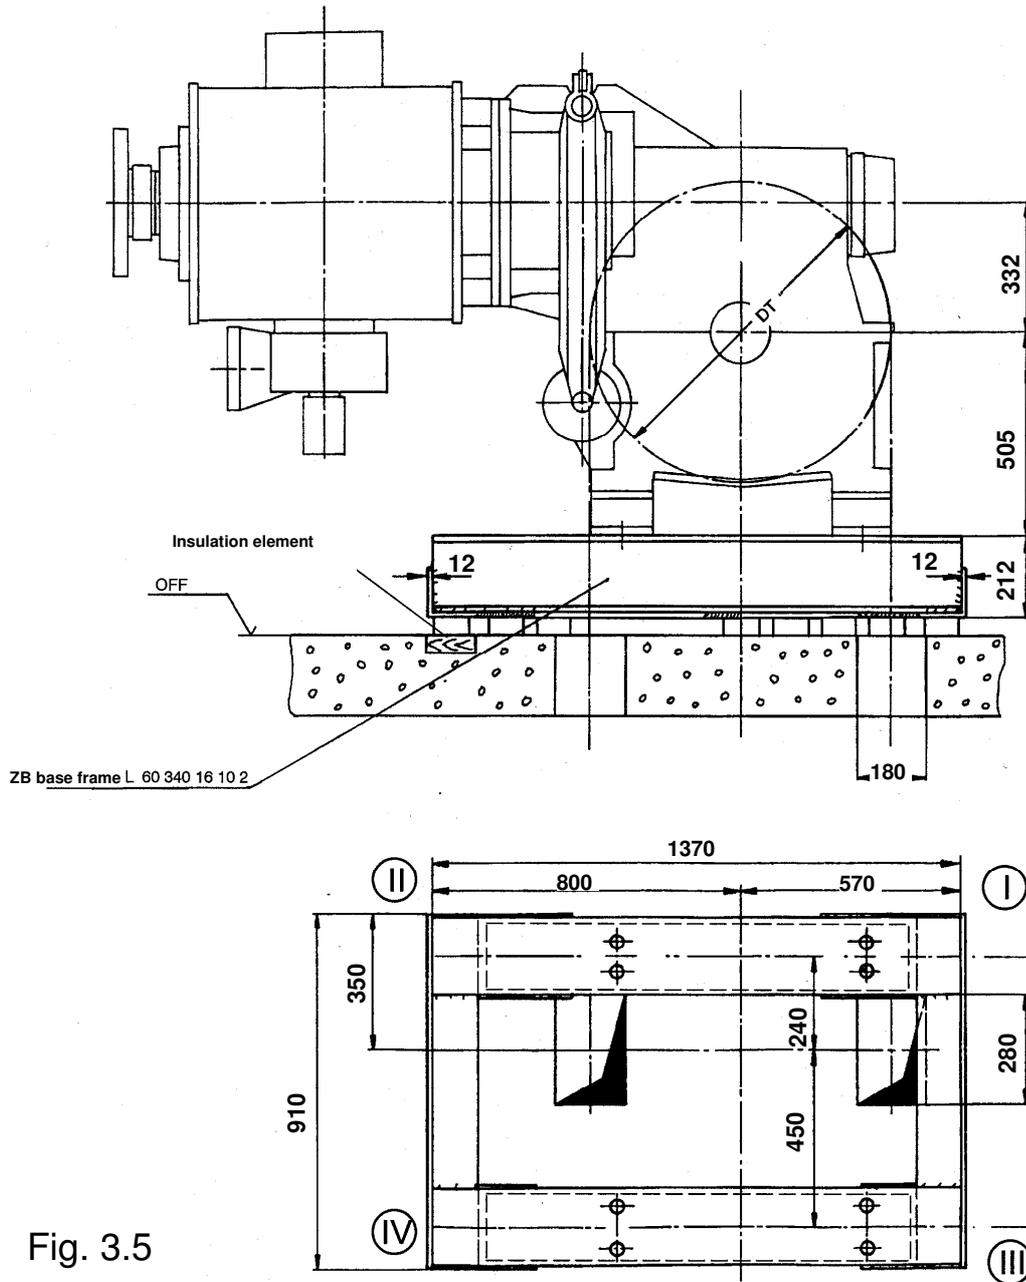

Fig. 3.5
1. **Without rope pulley**, for direct rope departure elevator car – counterweight, or 2:1 suspension. Version, see Table 1. Illustration in Fig. 3.5